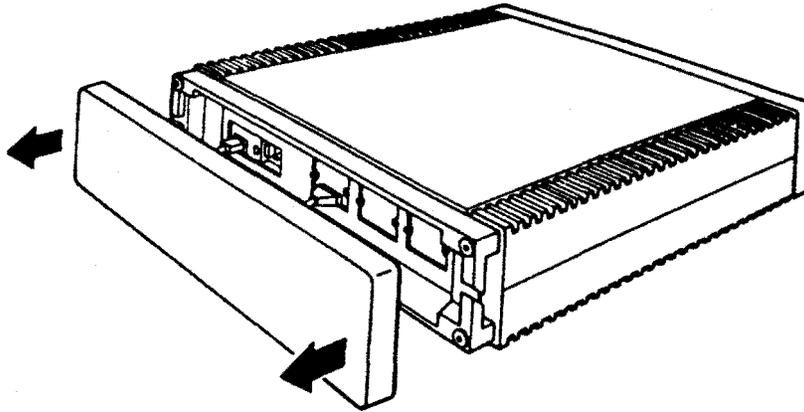

Figure 6-1: Rear Cover Removal
3. Remove the system unit rear cover, by grasping each end and pulling the cover toward you (Figure 6-1).